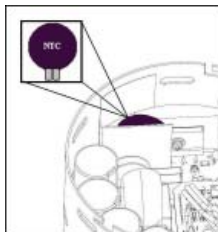

Figure 9a
4. Inspect the NTC thermistor inside of control unit for any cracks or breakage [Figure 9a].